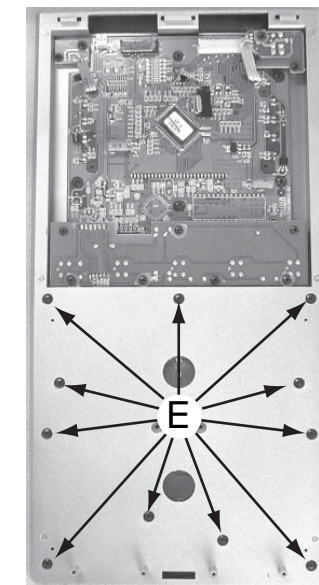

Figure 4
- 1) Loosen 11 screws E (see Figure 4) to remove the Control Panel Ass'y .